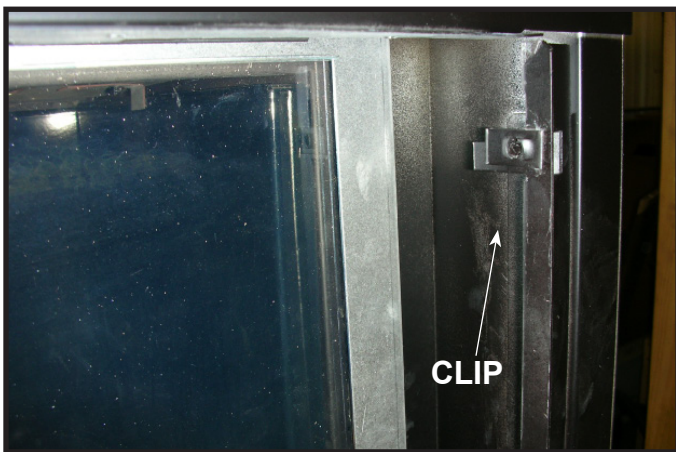
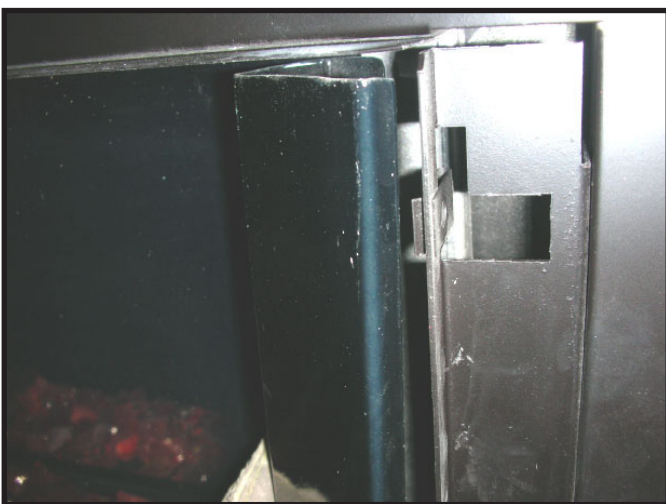

Figure 8. Clip Location.
Figure 9. Installing Outside Corner Trim Piece onto Clip.
6. Install outside corner trim pieces. Outside corner trim pieces will be forced into clip on front of fireplace. See Figure 8, Figure 9 and Figure 10.